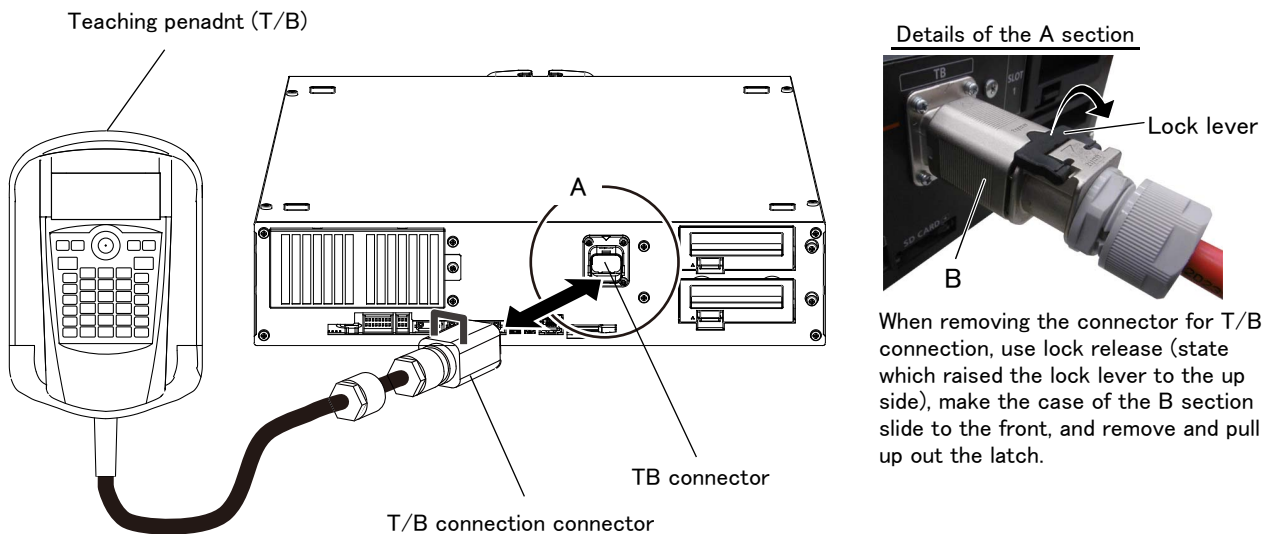

Fig. 4-2 : Installing and removing the T/B
- 2) Refer to Fig. 4-2, connects T/B connector to the robot controller. Use as the upper surface the lock lever, and push in until there is sound.
- 2) Refer to Fig. 4-2, raise up the lock lever in the connector upper part , and pull up the connector.
- 2) Pull out the T/B connector within five seconds while 1). Refer to Fig. 4-2, raise up the lock lever in the connector upper part , and pull up the connector.